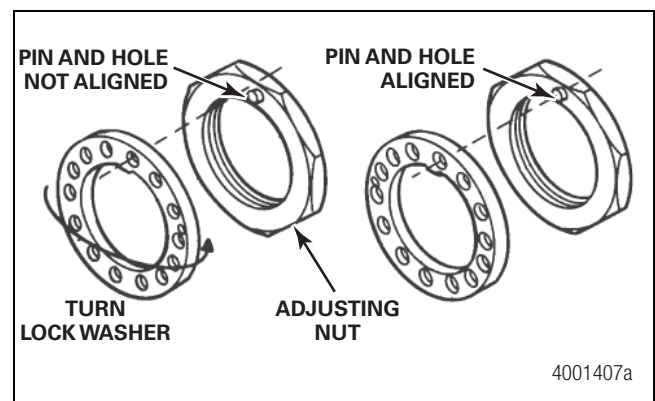

Figure 7.6
- 6. Install the lock washer. If the hole in the washer is not aligned with the inner adjusting nut pin, remove the washer, turn the washer over and reinstall it. The pin and the hole should now be aligned. If not, slightly adjust the inner adjusting nut. Use whichever lock washer side causes the least movement of the adjusting nut. Figure 7.6.